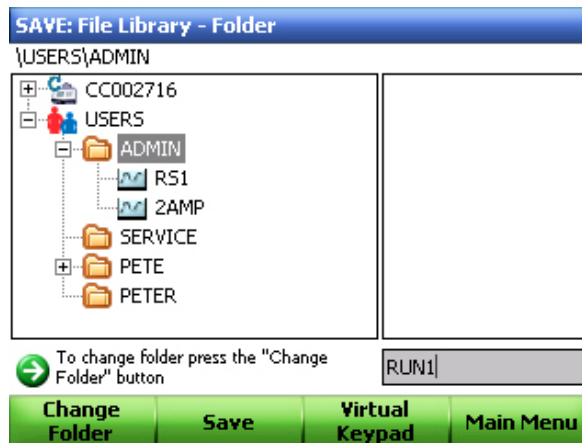

Figure 36. Entering a protocol name.
3. Click **Edit Filename** (F1). Type a new name in the box and click **Save** (F2) (Figure 36).